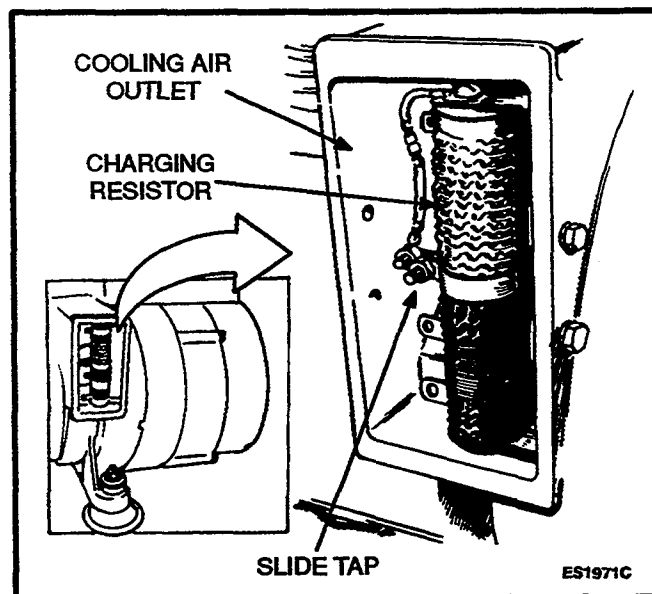

FIGURE 6-1. CHARGING RESISTOR
1. The slide tap on adjustable resistor R21 (see Figure 6-1), should be set to give about 2 amperes charging rate. For applications requiring frequent starts, check battery charge condition (specific gravity) periodically, and if necessary, increase charging rate slightly (slide tap nearer ungrounded lead) until it keeps battery charged. Having engine stopped when readjusting avoids accidental shorts. Avoid overcharging.